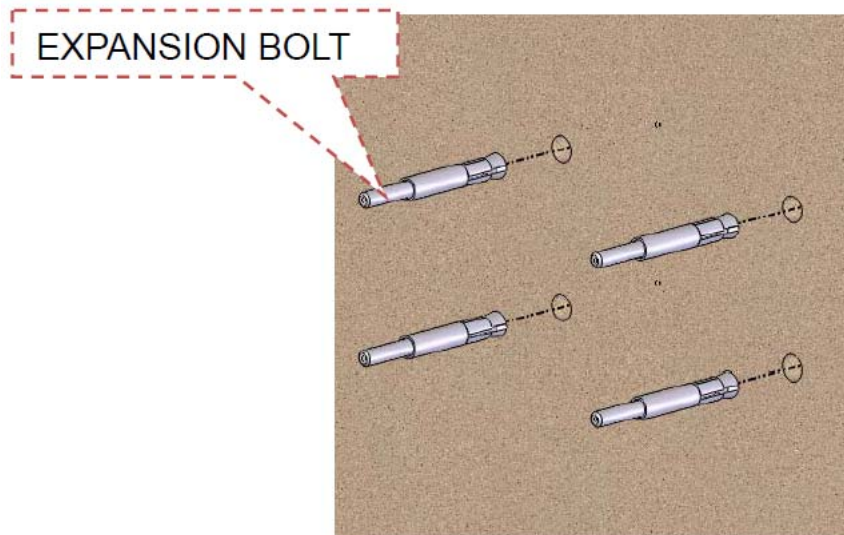

Figure 26
Step 2 The M8 expansion blot put into the hole, as shown in figure 26.